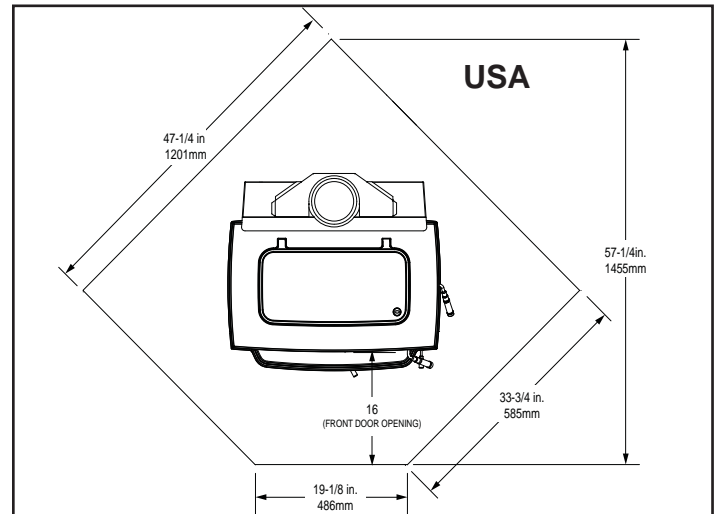

Figure 14.4
**\*EXCEPTION:** Non-combustible floor protections must extend beneath the flue pipe when installed with horizontal venting and extend 2 inches (51mm) beyond each side. **See Figure 14.4**